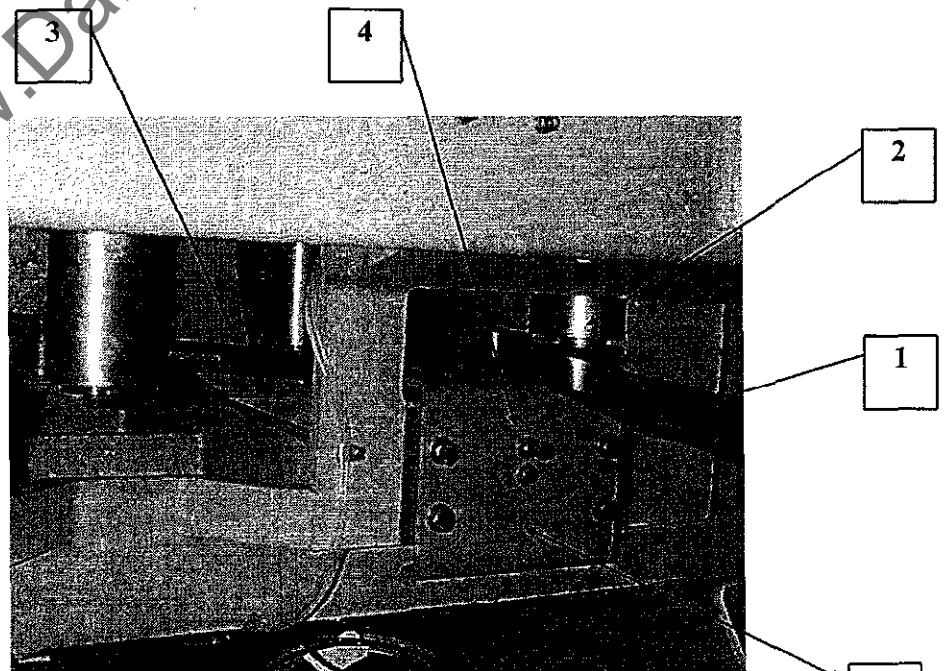
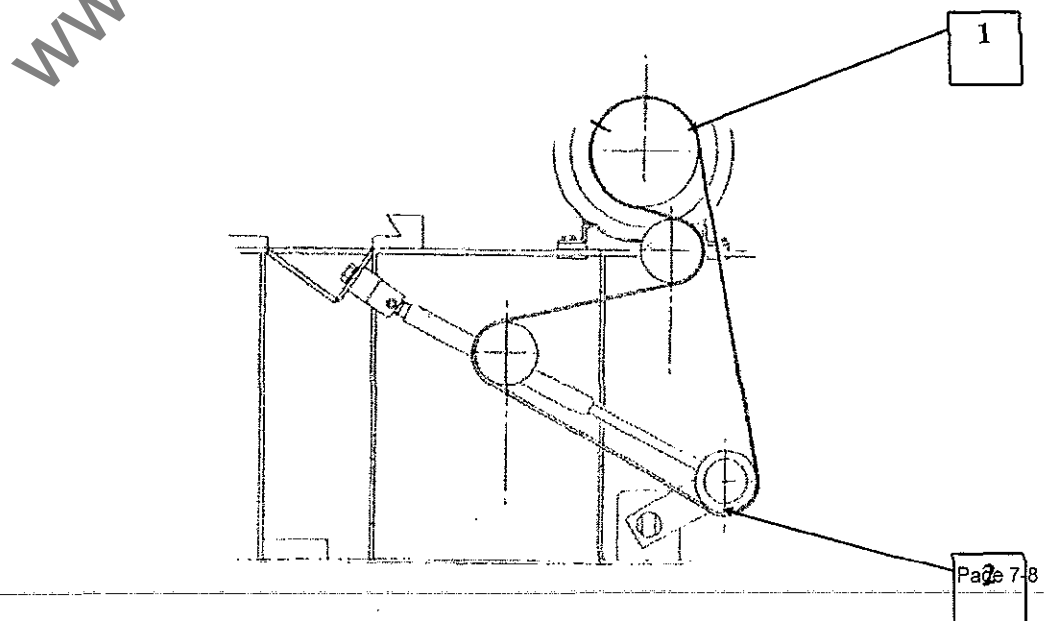

Figure 7.3.3
Figure 7.3.5
7.3.3 Removal of K23/K25 Vertical Spindles (Fence and Near Side Head) (Figure 7.3.3.)
4. Place the supplied lever tool ((1)Figure 7.3.3.) with the hole in the tool fitting over the idle belt roller pivot.
5. Applying force on the lever push the idle roller (2) back against the gas spring pressure and remove the belt. **Please note** to remember to allow the gas spring (3) to gently push the idle roller back after the belt is removed.
14. To re-assemble the spindle simply reverse the above procedure remembering to follow the belt tensioning information documented in (Figure 7.3.5).
7.3.5 Replacing K23/K25 Fence and Near Side Head Drive Belts (Figure 7.3.5.)
3. Place the supplied lever tool (Figure 7.3.5.) with the hole in the tool fitting over the idle belt roller pivot.
6. Refer to Figure 7.3.5. to ensure the direction of the belt conforms to the spindle position on the machine.
7. When replacing the belt it should be firstly placed around the drive motor pulley (1) then the fence spindle and near side spindle and finally over the idle roller (2).
8. Turn the spindle to check the belt is running true and equal on the pulleys. The idle roller may need to be pitched by adjusting the pivot screw (refer to (4) figure 7.3.3) to achieve this.
9. Tighten the locking screw (refer to (5) figure 7.3.3) once the belt has been trued in relation to the motor pulley.